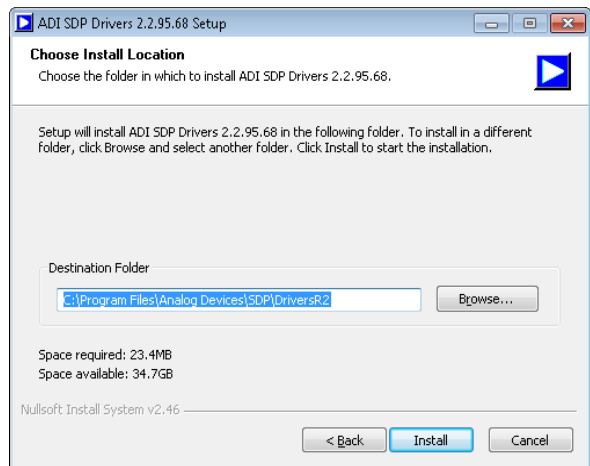

Figure 11. Choose Install Location
- Choose the installation location and click **Install**; the default folder is shown in Figure 11.